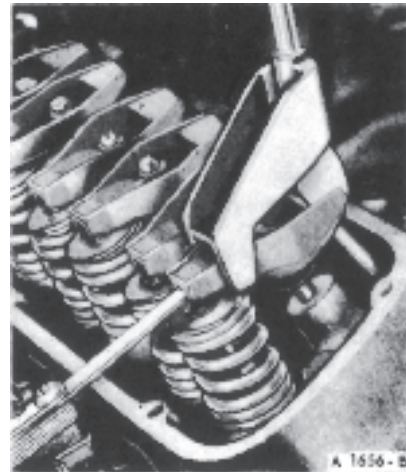

Fig. 17 Checking Valve Clearance-Hydraulic Valve Lifters
2. With the crankshaft in the positions designated in Steps 3, 4 and 5 position the hydraulic lifter compressor tool on the rocker arm. Slowly apply pressure to bleed down the hydraulic lifter until the plunger is completely bottomed (Fig. 17). Hold the lifter in this position and check the available clearance between the rocker arm and the valve stem tip with a feeler gauge. The feeler gauge width must not exceed 3/8-inch. If the clearance is less than specifications, install a shorter push rod. If the clearance is greater than specifications, install a longer push rod.